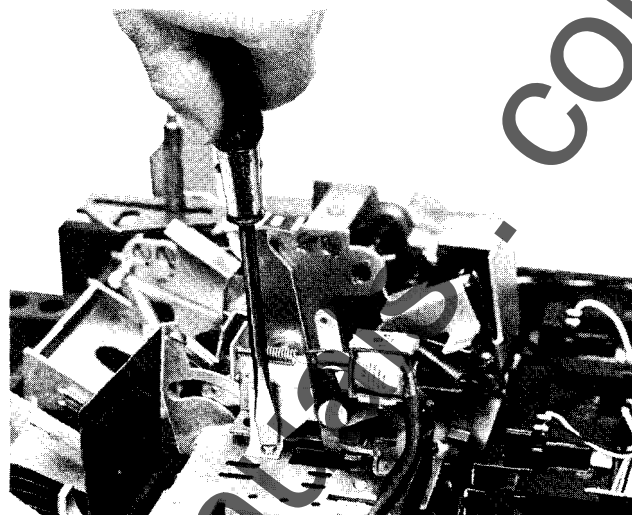

Fig. 18.
6. Line up the UVR bracket's mounting hole with the tapped hole in the accessory mounting plate. Install screw and lock-washer (Fig. 18). Tighten to 9-11 inch pounds.